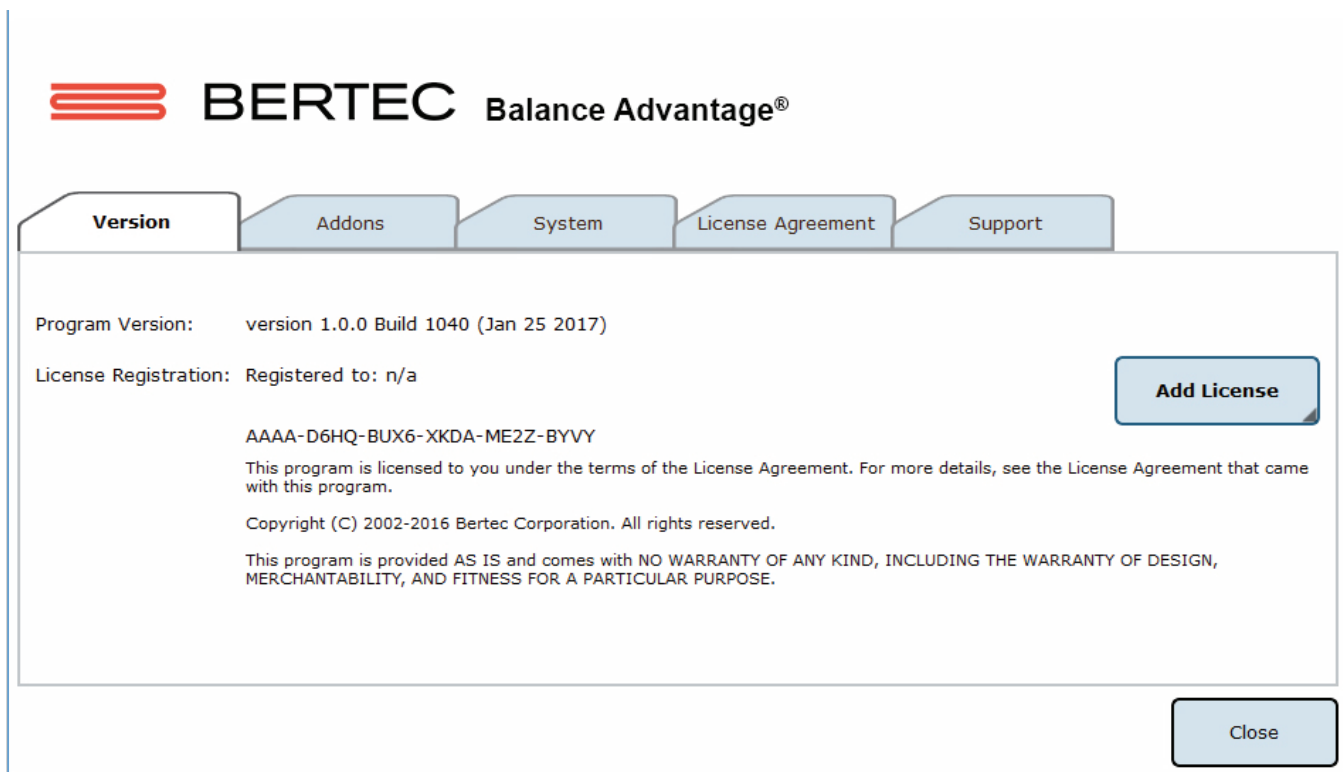

Figure C1: About Window Tabs.
**About Bertec® Balance Advantage®:** This option will open a new window, shown in Figure C1. The new window contains five different tabs: Version, Addons, System, License Agreement, and Support. These tabs are underlined/described below and on the following page.